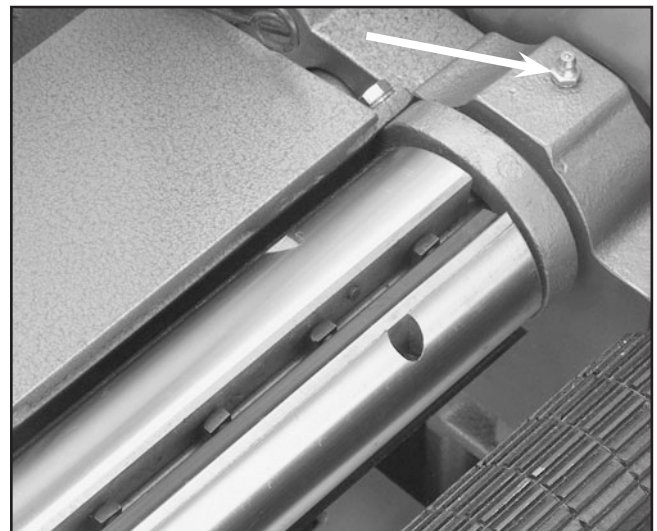

Figure 25. Grease fitting.
1. **Cutterhead Grease Fittings** — Once a week for heavy use; once a month for moderate use. See **Figure 25** for grease fitting location.